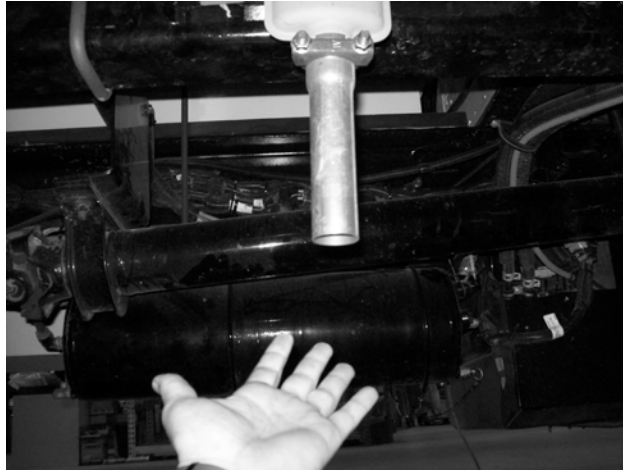

Figure 18- Feeling Exhaust for Heat
4. Insure that the heater is working by listening for ignition and feeling the exhaust for heat. The heater is located below the bed of the truck on the passenger side towards the front of the bed. See Figure 18.